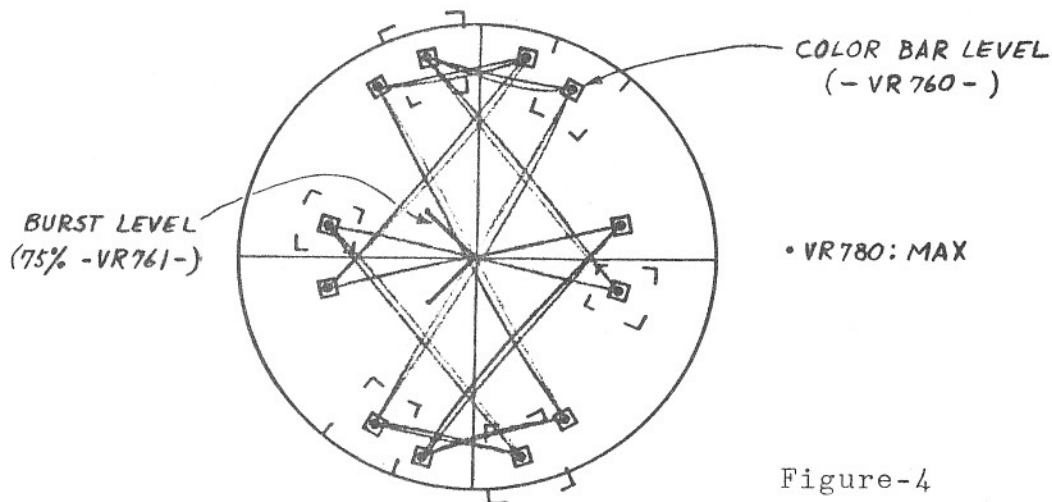

Figure-4
- c) Adjust VR760, 761 and 780 to obtain the vector pattern as shown in Figure-4